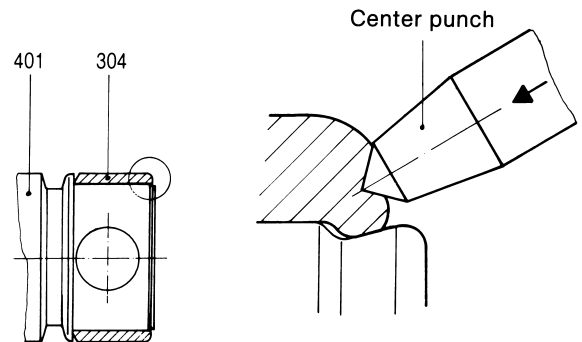

Figure 7: Securing the joint sleeve.
- Push joint clamps (306), joint collars (308) and joint sleeve (304) onto the shank of the joint shaft (307).
- Push joint shaft (307) into the head of the rotor (401) and/or the pump shaft (125).
- Push joint bolt (301) into the joint bush (302), and completely drive in bushes for joint bolt (303).
- Polish joint sleeve (304) at the outside diameter, if necessary, with emery, and mount on the head of the rotor (401) and/or the pump shaft (125).
- Following the mounting of the joint sleeve (304), secure same against axial displacement on the head of the rotor (401) and/or the pump shaft (125).
ATTENTION For these purposes, drive face of the joint sleeve (304) into the groove at the head of the rotor (401) and/or the pump shaft (125) by means of a center punch blow (please refer to Figure 7 below).